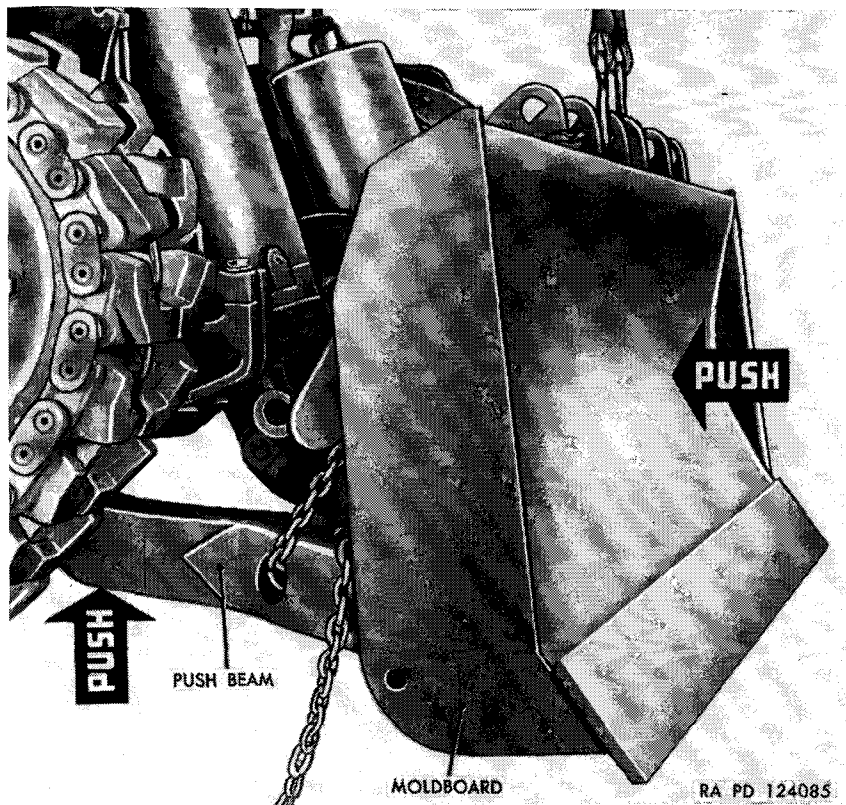

Figure 16. Positioning moldboard to align push beam with push-beam bracket.
b. Pass a chain around the projecting boss on top of the moldboard at the right end, pass one end of this chain through the small opening in the outer side of the right push beam; then tie the two ends of the chain together so that the chain will support the push beam and keep it approximately level with the ground when the moldboard is raised into the air (fig. 16).
d. Place one operator under the front of the vehicle and have two operators stand in front of the moldboard ready to push it in toward the vehicle (fig. 16). Raise the moldboard into the air until the free end of the right push beam is raised up into approximate horizontal alinement with the right push-beam bracket.